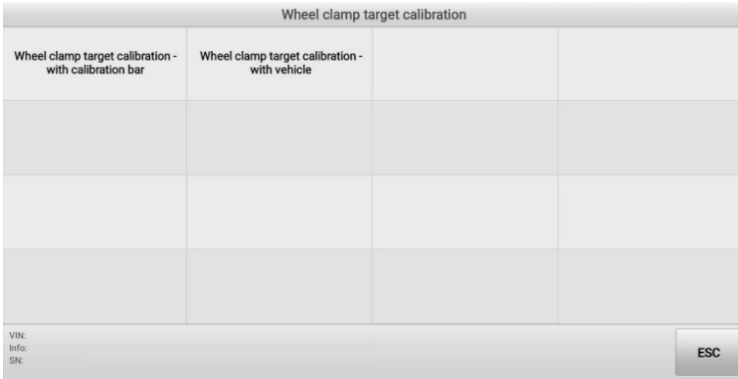

Figure 4-38 Select Calibration Method
2. Select **Wheel clamp target calibration — with vehicle**. Refer to Figure 4-38 Select Calibration Method for details.